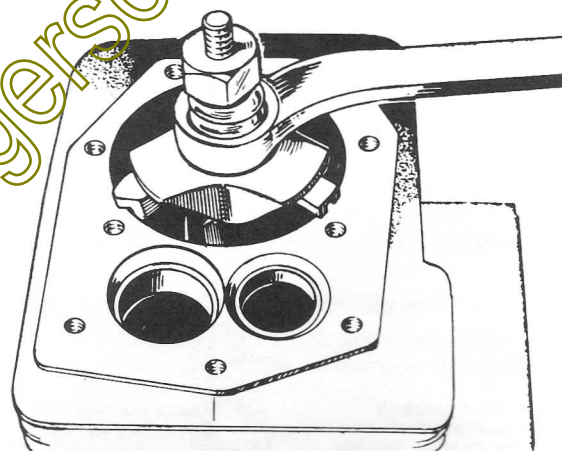

FIGURE 21. REMOVING RIDGE FROM CYLINDER
3. Remove the ridge from the top of each cylinder with a ridge reamer before attempting piston removal (Figure 21).